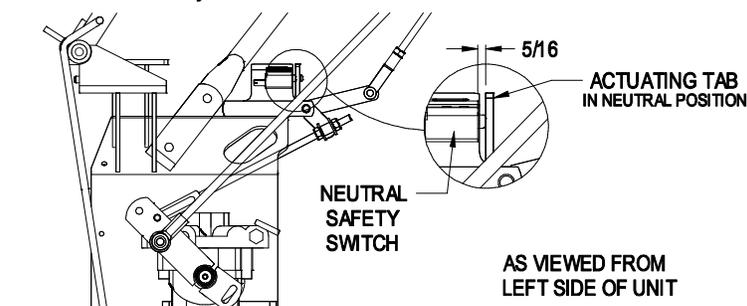

FIGURE 11
2. Move speed control lever (located on console) to the full forward position and check orientation of tabs on the ends of the speed control crank. See Figure 11. These tabs should be pointing straight down at the 6 o'clock position or slightly forward. Adjust threaded yoke at the bottom of speed control linkage until tabs are positioned correctly. See Figure 11.
3. Pull speed control lever back to neutral. Check that the neutral safety switch actuating tab has depressed the plunger of the switch so that there is about 5/16" between the tab and the switch. See Figure 11. If necessary, move the switch fore and aft.